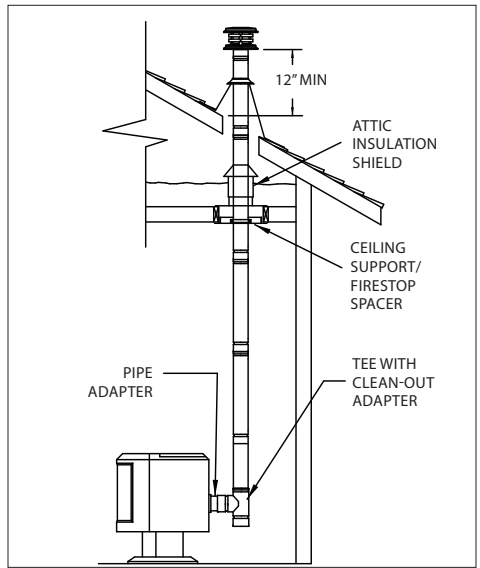

Figure 3
3. If the flue exits on back of stove and an interior installation is desired (**Figure 3**):